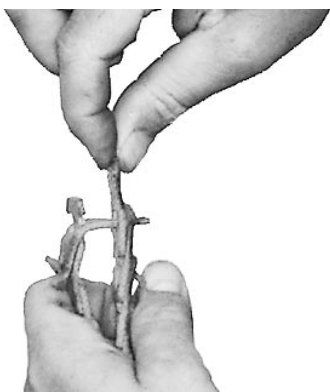

Fig. 17
2. Pull the end of the link over the tab (Fig. 17).